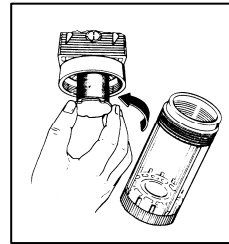

Fig. 7
- Ogni sei mesi smontare e pulire soffiando con aria compressa la cartuccia coalescente contenuta nel filtro (Fig. 7). Questa operazione deve essere eseguita con il serbatoio completamente scarico da pressione.
- Every six months disassemble the coalescing cartridge in the air outlet filter (Fig. 7). This operation must be done with the air tank completely out of pressure.
- Leaky non return valve. Take off the flexible pressure pipe to see if air leaks out from the valve. If so unscrew the valve cap (Fig 7), clean the rubber O-ring and is place with a dry cloth and assembly the whole with care. If the leakage persists, the whole valve must be replaced